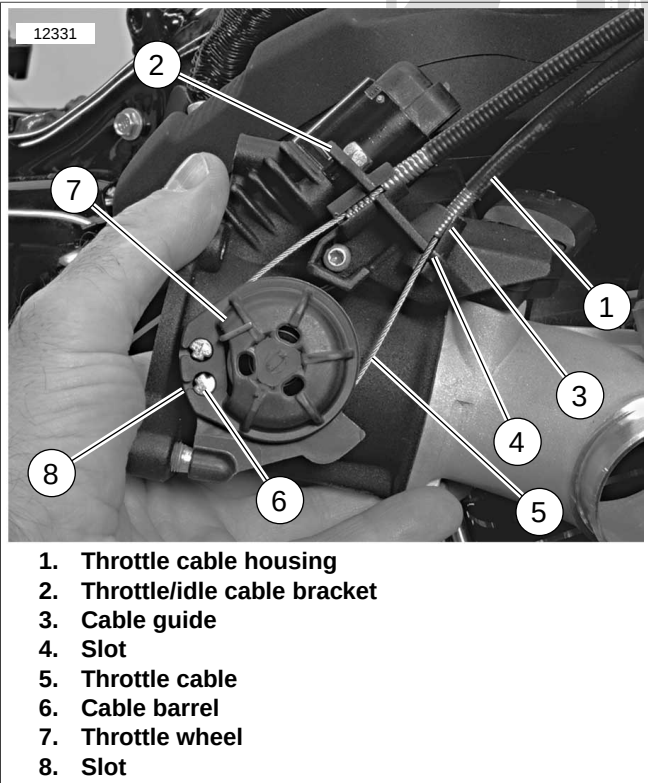
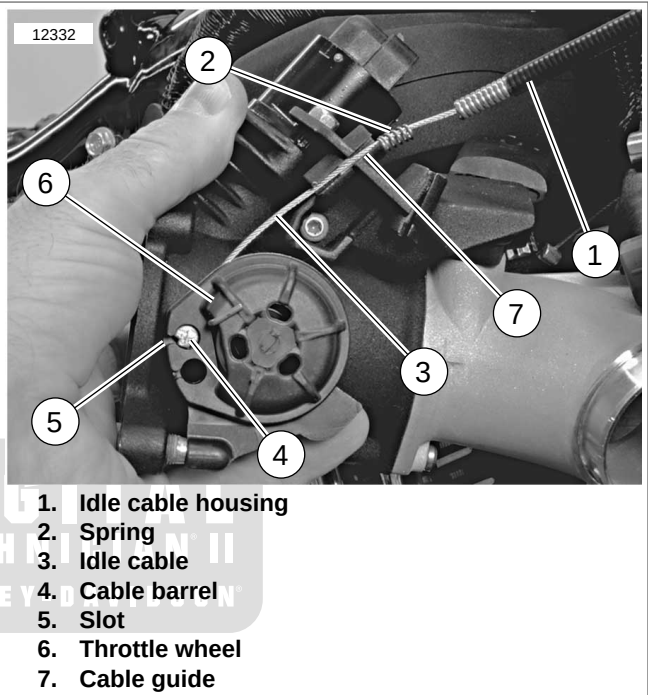

Figure 4-42. Removing/Installing Throttle Cable
Figure 4-43. Removing/Installing Idle Cable
15. See Figure 4-42. Remove throttle cable (5) from throttle wheel (7)
- a. Lift throttle cable housing (1) up out of cable guide (3) in throttle/idle cable bracket (2).
- b. Slide throttle cable (5) out through slot (4) in cable guide.
- c. Unwind throttle cable from groove in throttle wheel (7).
- d. Slide cable out through slot (8) and remove throttle cable barrel (6) from throttle wheel.
16. See Figure 4-43. In a similar fashion, remove idle cable (3) from throttle wheel (6):
- a. Lift idle cable housing (1) and spring (2) up out of cable guide (7) in throttle/idle cable bracket.
- b. Slide idle cable (3) out through slot in cable guide.
- c. Unwind idle cable from groove in throttle wheel (6).
- d. Slide cable out through slot (5) and remove idle cable barrel (4) from throttle wheel.
10. See Figure 4-43. Install idle cable barrel (4) into throttle wheel (6). Slide idle cable (3) through slot (5) and wind around groove in throttle wheel.
11. Pull cable through slot in cable guide (7). Slide spring (2) and end of idle cable housing (1) down into cable guide.
12. See Figure 4-42. Install throttle cable barrel (6) into throttle wheel (7). Slide throttle cable through slot (8) and wind around groove in throttle wheel.
13. Pull cable through slot (4) in cable guide (3). Slide end of throttle cable housing (1) down into cable guide.